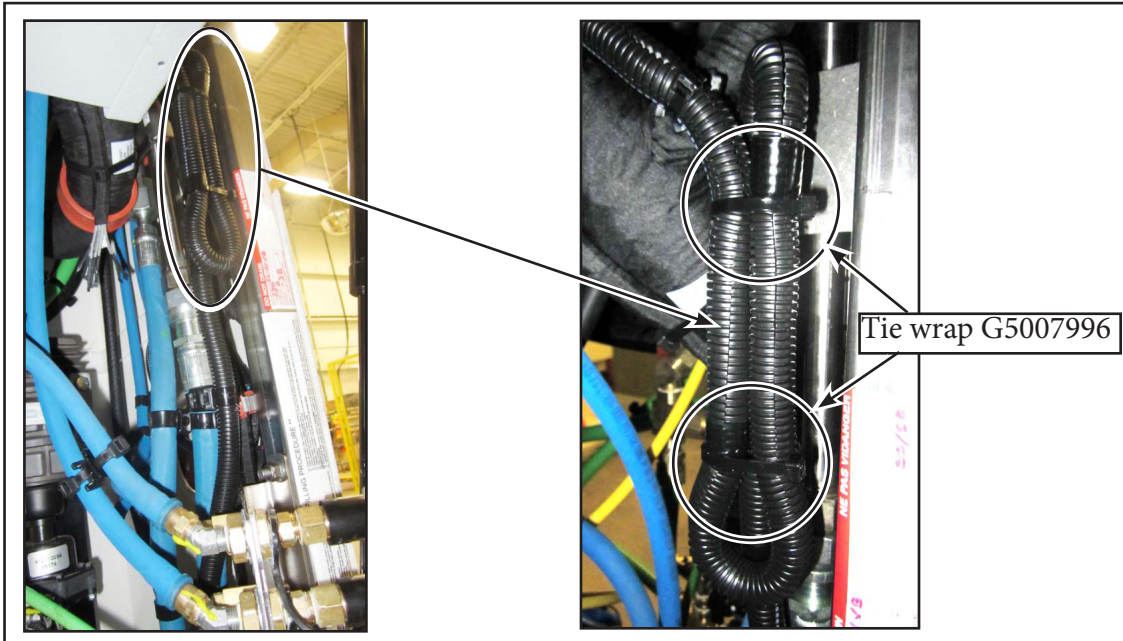

Figure 14 - Secure Excess Length of the Bypass Cable Wire Kit
- 1.14. Secure the excess length of the bypass cable wire kit onto the existing wire harness with two G5007996 cable ties (see Figure 14).